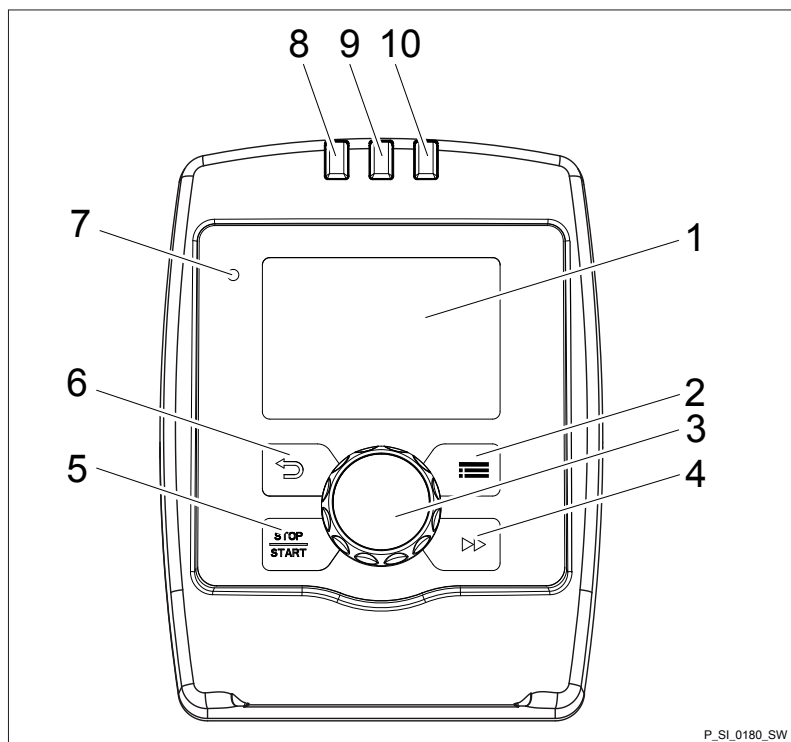

Fig. 5: Control elements for HMI Sigma X Control type
- 8 LEDs (as Fig. 5) and CAN bus status LED (external)